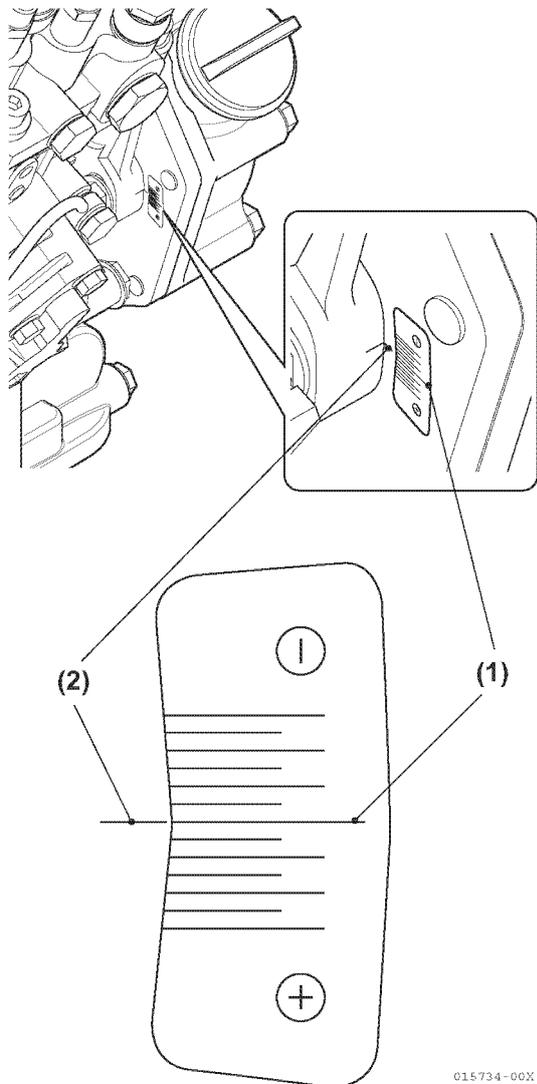

**Figure 6-69**
- Align the reference marks (Figure 6-69, (1)) previously made on both the fuel injection pump mounting flange and gear case or front plate.